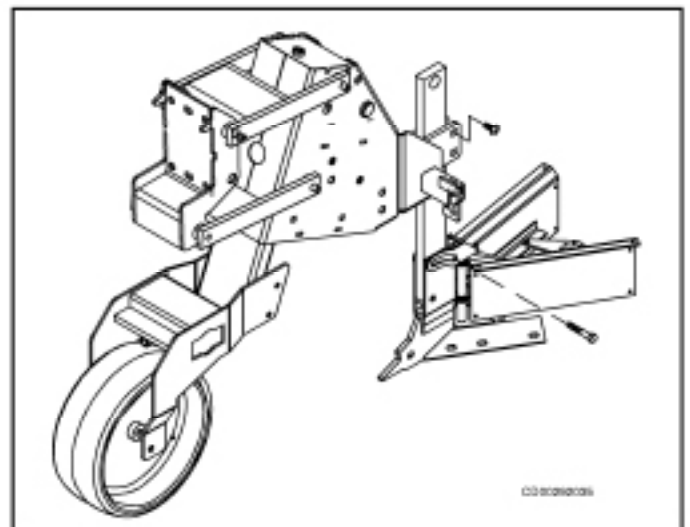

Figure 59 Fastening Hiller to Shank
1. Fasten hiller to shank. Use 1/2 NC x 2-1/2" hex bolt and flanged nut through pitch adjustment bracket as shown in Figure 59.